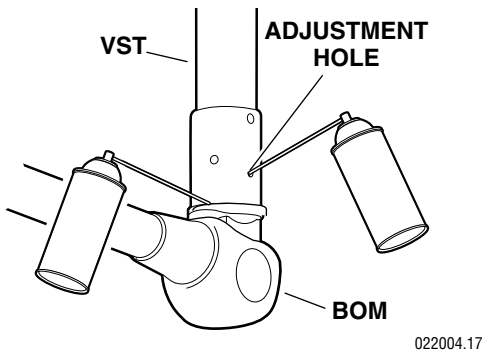

Figure 4-10. BOM Lubrication
- If the lighthead sticks or is difficult to move, before making any adjustments, lubricate the BOM needle bearings with a Teflon type spray lubricant such as TRI-FLOW (available from Richardson-Vicks, Inc., Memphis, TN) or equivalent. See figure 4-10. After spraying, rotate the lighthead several times in both directions and recheck for proper tension.